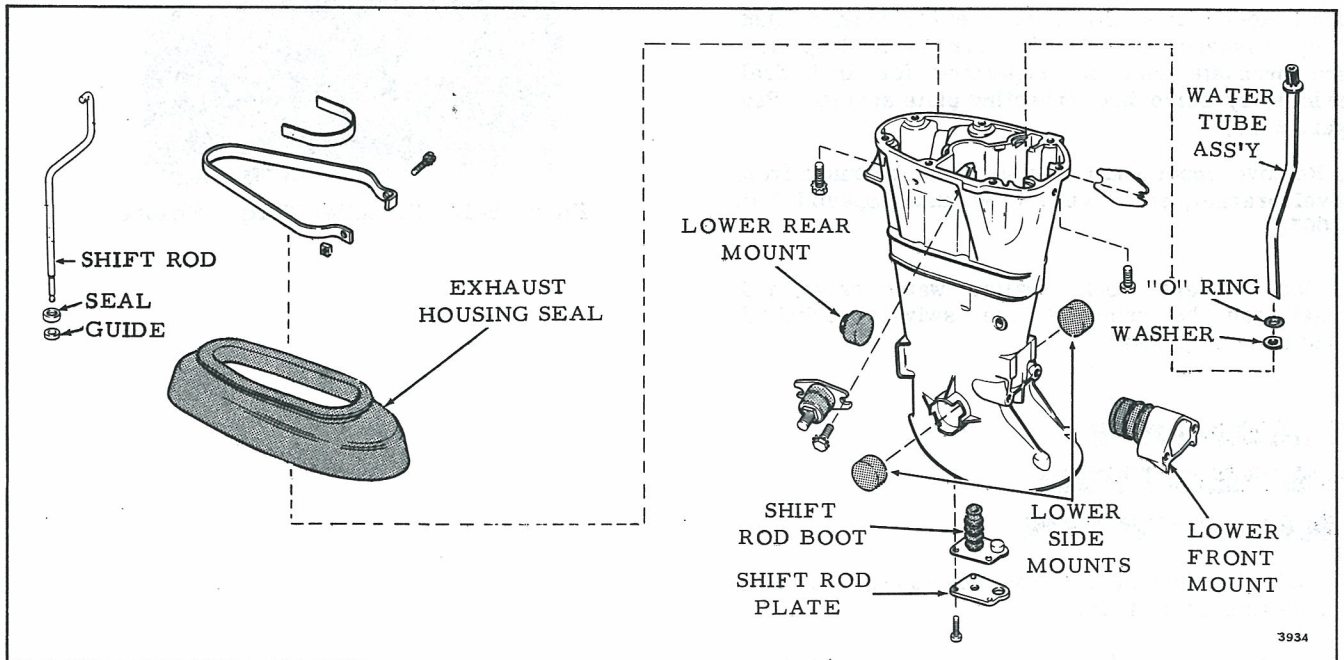

Figure 6-13. Exhaust Housing Assembly View
- a. If shift rod or water tube are damaged, remove three screws attaching shift rod boot plate to exhaust housing. See Figure 6-13.